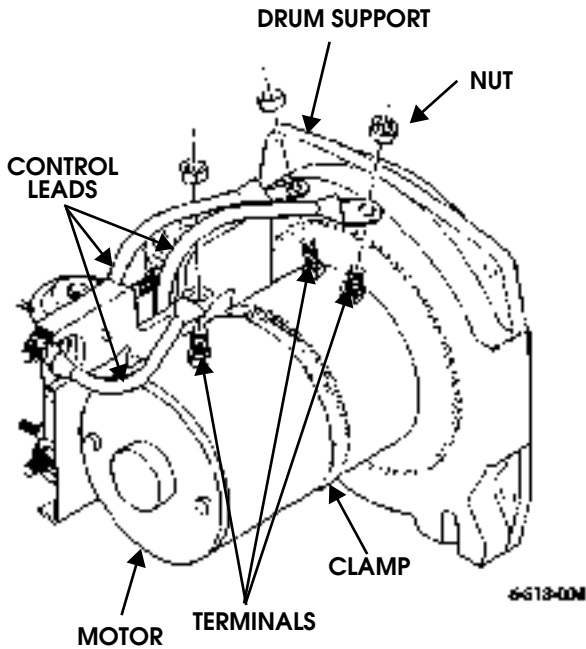

Figure 9-178: Control Leads
25. Connect three control leads to terminals and secure with nuts (Figure 9-178).
2. Remove three nuts and control leads from motor (Figure 9-178).
11. Connect three control leads to terminals and secure with nuts (Figure 9-178).